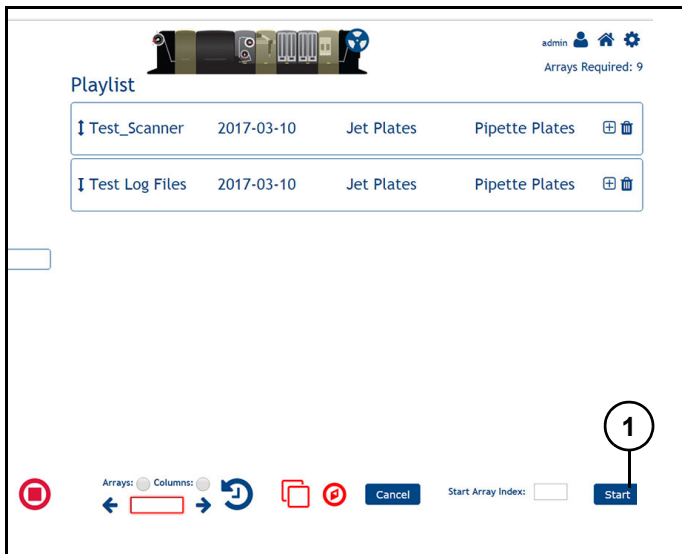

Figure 7
7. Click "Start" (1) (Figure 7).